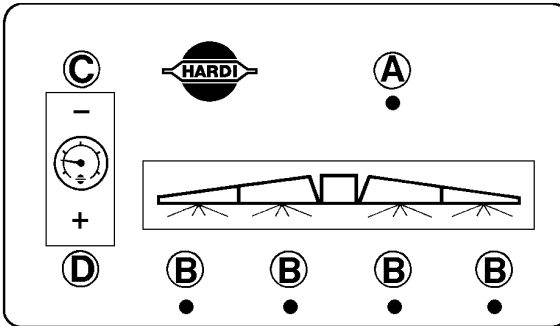

Fig. 21
8. Shut-off the first boom distribution valve switch **B**. (Fig. 21)
12. Operating the control unit while driving: In order to shut off the entire boom activate on-off switch **A** (Fig. 21). This returns all the pump outputs to the tank through the return system. The diaphragm anti-drip valves ensures instantaneous closing of all nozzles.